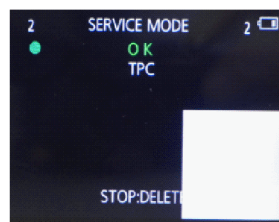

Fig.3-14
10. When "OK" is displayed (Fig.3-14), adjustment is complete.